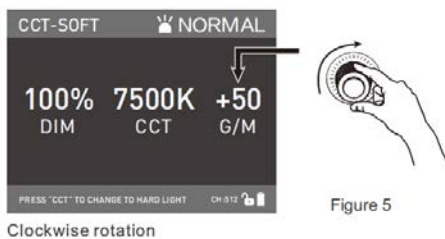

Figure 5
4. G/M setting: Rotate "SELECT knob", clockwise to increase the G/M value while counterclockwise to reduce the G/M value. G/M shows the G/M values on the display, the G/M range is from -50 to +50. Press the "SELECT knob" to reset its value to +00. (As shown in figure 5 ).